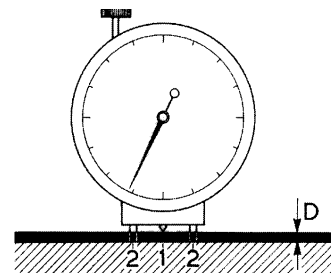

Fig. 4
Differences in height (D) between the upper surface of a wet coating and the substrate are measured by way of the manually adjustable plunger (1) of a dial gauge which is supported on two feet (2) that penetrate the coating and rest on the substrate (Fig. 4).